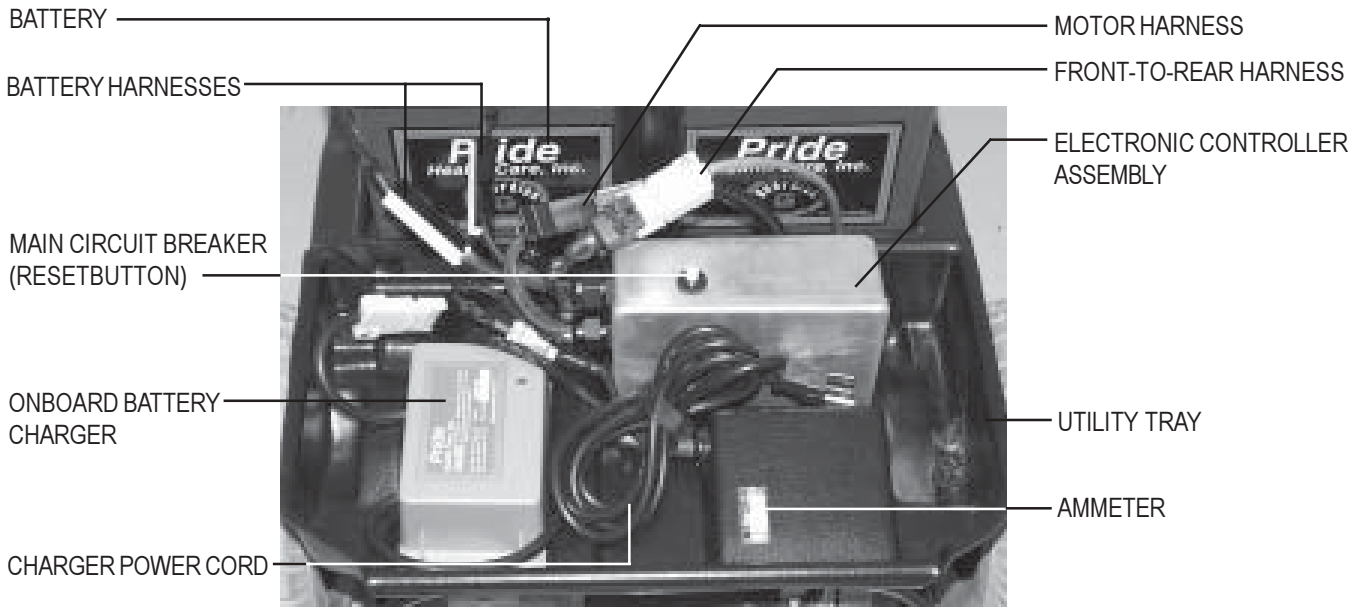

FIGURE 8. UTILITY TRAY COMPONENTS
The onboard battery charger, the charger power cord, the batteries, the electronic controller assembly, the main circuit breaker, the manual freewheel lever, and the motor/transaxle assembly are located beneath the shroud on the rear section of your Maxima. See figures 8 and 9. Refer to IX. “Disassembly and Assembly” for instructions on removing the rear shroud.
- The charger is located on the utility tray. See figure 8.
- The main circuit breaker (reset button) is mounted on the electronic controller assembly cover. See figure 8.